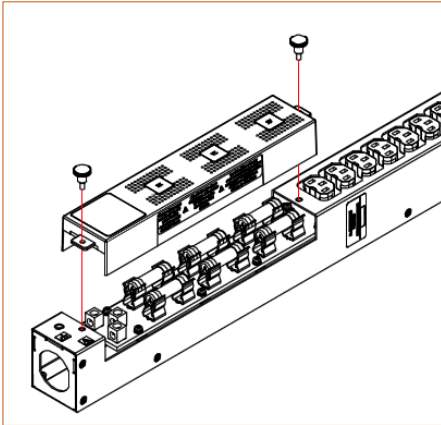

Figure 1. Fuse Cover Removal
2. Loosen the two thumb screws to remove the fuse cover. See Figure 1.